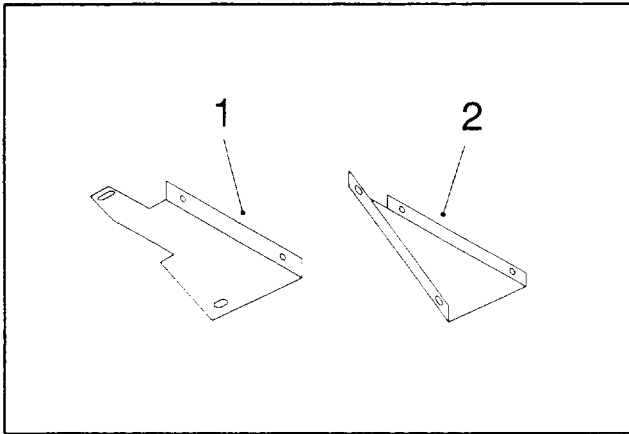

Figure 7
1. Two mower belt-cover brackets are supplied (Fig. 7). The long, narrow bracket is for 48" mowers. The short, wide bracket is for 42" mowers.